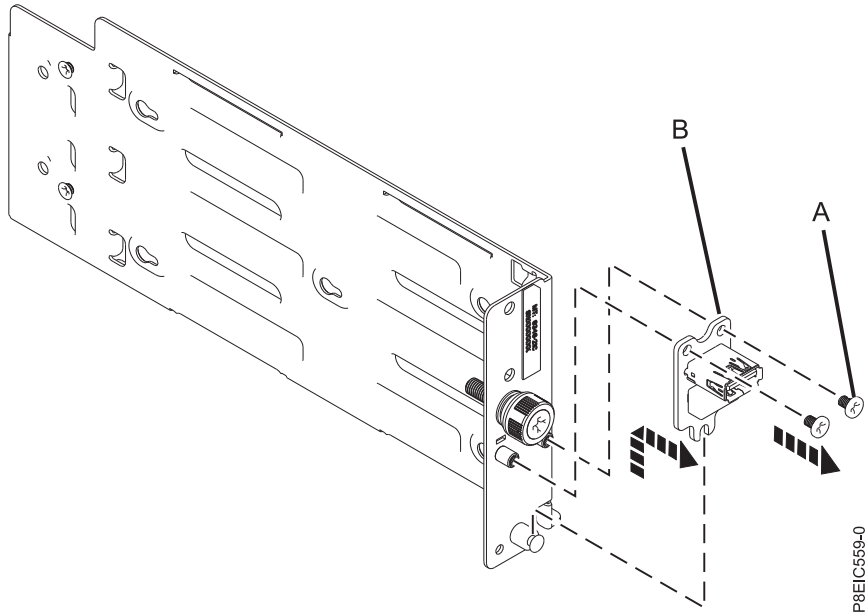

Figure 109. Removing the USB card
9. Remove the two screws (**A**) from the USB card (**B**); then lift the USB card and cable away from the holder, as shown in Figure 109 on page 97.